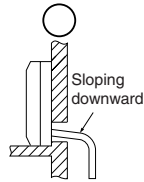

Fig. 1
- Be sure to route the drain piping slightly downward so that the drain water flows easily. (Fig. 1)